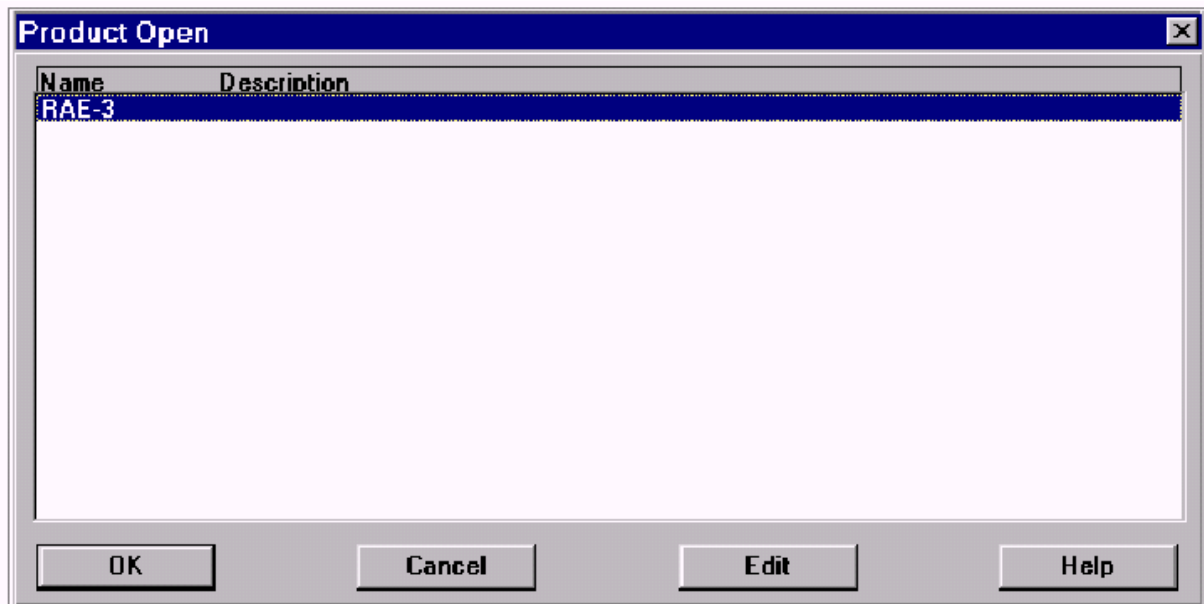

Figure 6. Product Open
5. Select Product -> Open -> RAE-3 (or if WinTesla is already running and N9210 is on Press "**F5**" to initialize connection (see Figure 6)